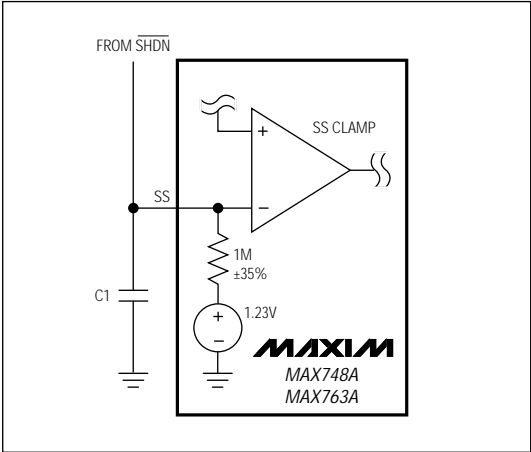

Figure 2. Soft-Start Circuitry Block Diagram
Figure 2 shows a capacitor connected to the soft-start (SS) pin to ensure orderly power-up. A typical value is 0.047µF. SS controls both the SS timing and the maximum output current that can be delivered while maintaining regulation.